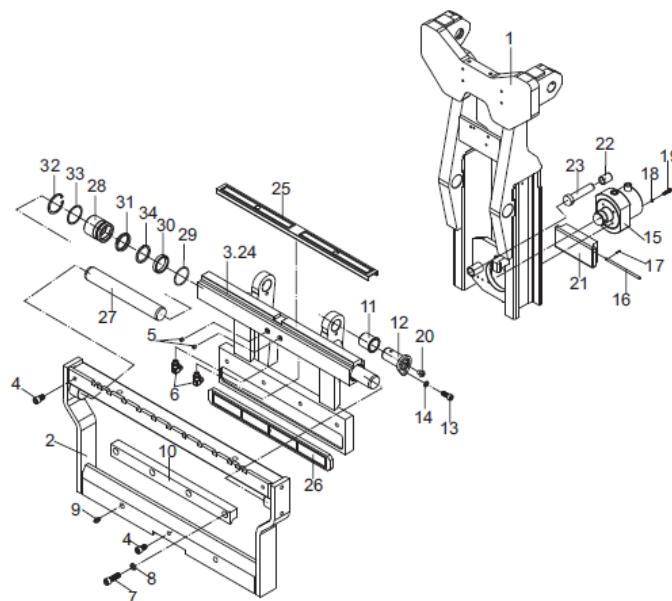

Figure 4-8-11 Structure of side shifter assembly
12) Remove the pin axle 12 as shown in figure 4-8-11. Divide the side shifter assembly into two parts. The rear parts of fork carrier 1, tilting cylinder 15, top block of tilting cylinder 21, pin axle of top block 16 and auxiliary top rod 23 belong to the rear part and others are front part.
13) Remove the pin axle of top block 16 as shown in figure 4-8-11. Remove the top block of tilting cylinder 21 and auxiliary top rod 23.
14) Remove the screw 19 as shown in figure 4-8-11. Remove the tilting cylinder 15.
15) Remove the screw 7 as shown in figure 4-8-11. Remove the limit plate 10 and side shifter front carrier 2.